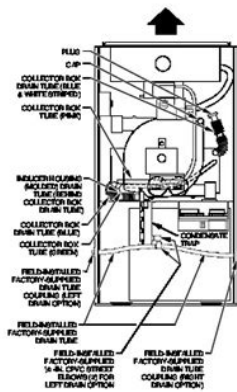

Fig. 7—Factory-Shipped Upflow Tube Configuration (Shown With Blower Access Panel Removed)
- Determine location of field drain connection. (See Fig. 7 or 8.)
- Connect 2 factory-supplied 1/2" dia. steel CPVC allows to right drain tube connection on condensate trap. (See Fig. 7.) These allows must be connected together and connected to condensate trap drain connection.
- An alternate location for the condensate trap is the left-hand side of casing. (See Fig. 7 and 8.)